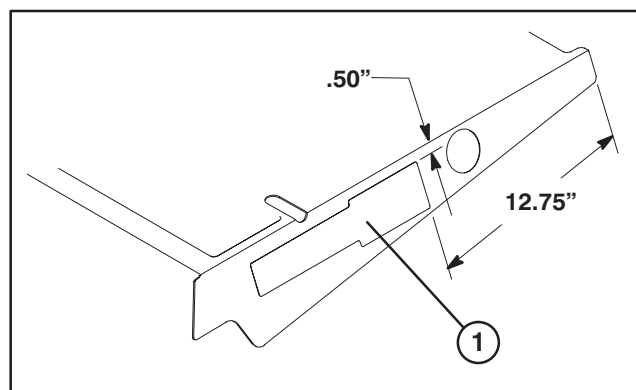

Figure 15
AFFIX DECALS (Fig. 15)
1. Using dimensions shown in figure 15, locate and affix a Reelmaster 2300 or 2600 decal to skirt on each side of machine.